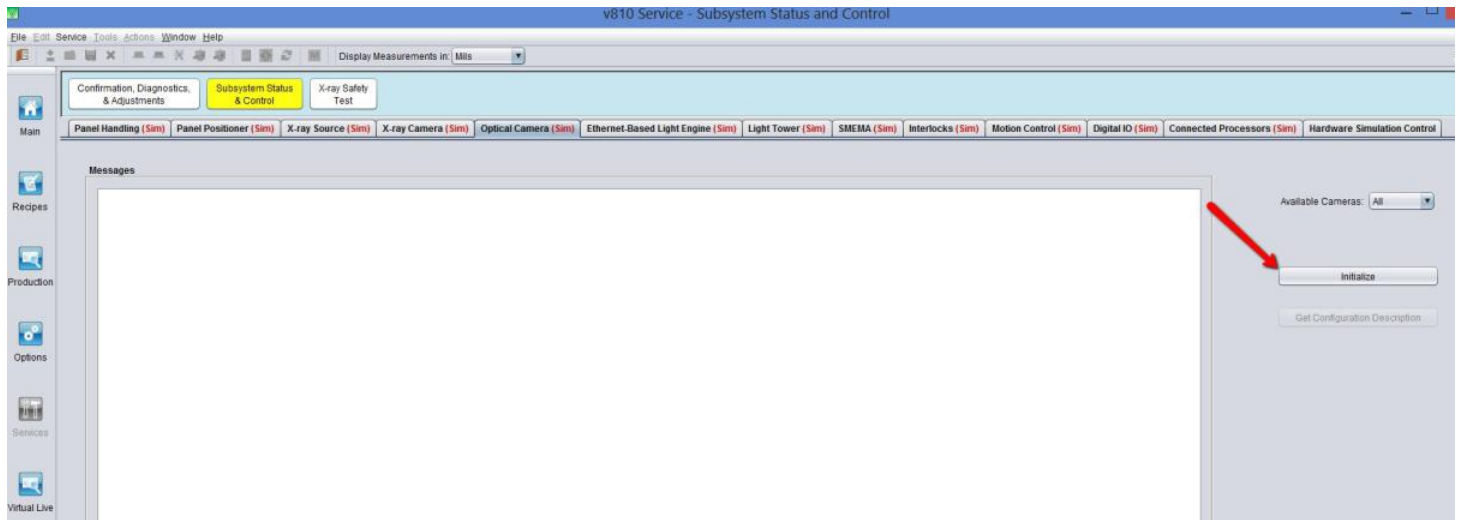

Figure 14 Optical Camera
8. Open V810 GUI and Click Initialize at Optical camera tab as below Figure 14.